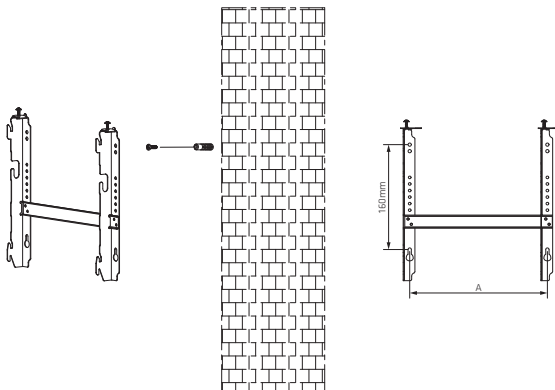

Fig.2
2. Verify that the bracket is perfectly horizontal with a spirit level and mark the location of holes on the wall. Drill holes in the wall for the pegs with a suitable drill bit. Insert the pegs into the holes, then screw the wall mount bracket securely onto the wall (Fig 2).